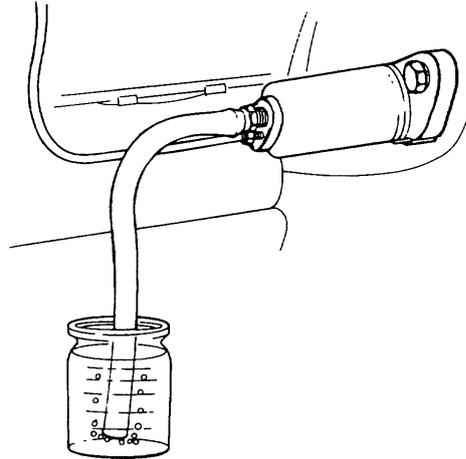

Figure 57 Clutch System Bleeding Procedure
- a.** Attach a length of suitable tubing to the slave cylinder bleed screw (Figure 57) and place the free end of the tube in a container.